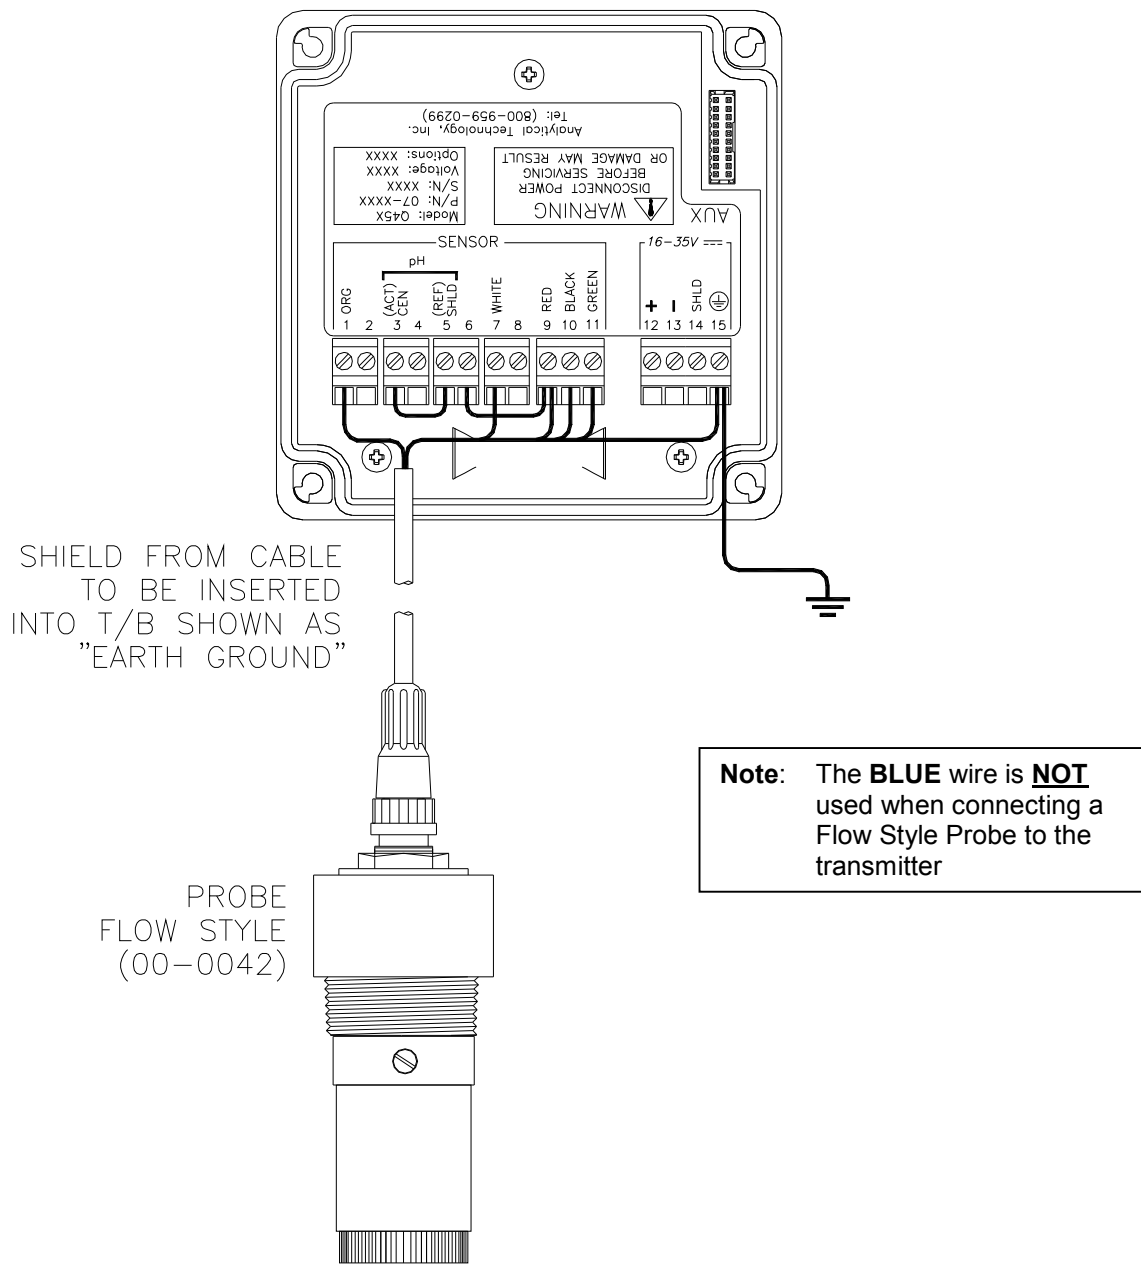
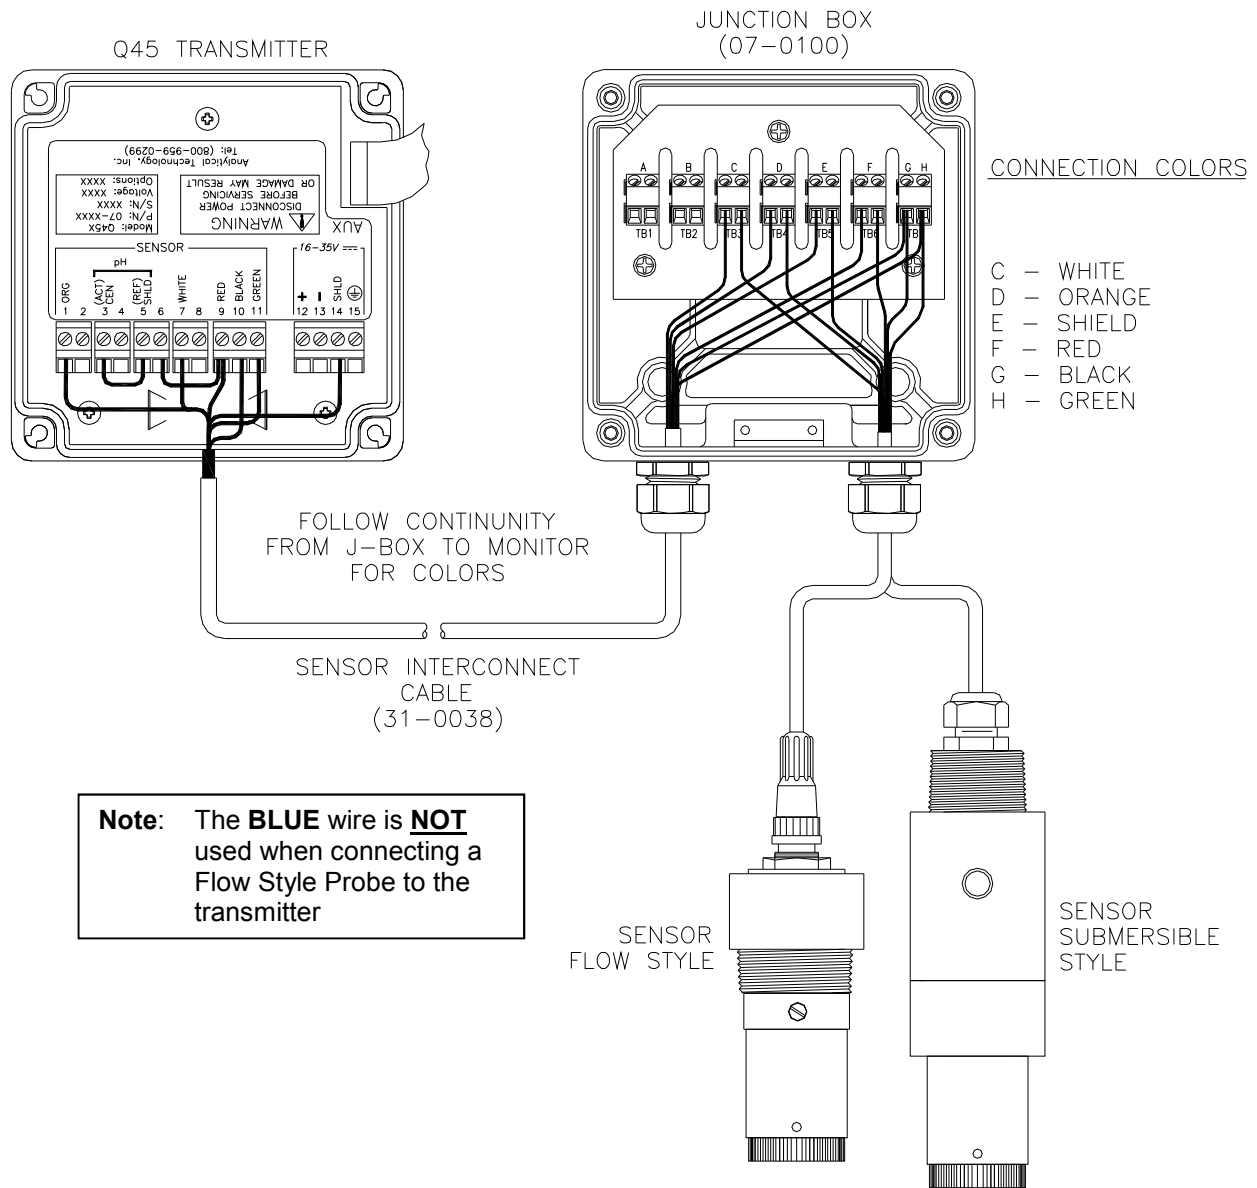

Figure 12 - Sensor Connection
Figure 15 - Junction Box Interconnect Wiring
1. Use wiring practices that conform to all national, state and local electrical codes. For proper safety as well as stable measuring performance, it is important that the earth ground connection be made to a solid ground point from terminal 15 (Figure 12.)
Q45H units ordered with the external connection option are designed for applications where power is to be supplied from an external source, and the two voltage outputs are to be wired to an external device. Figure 12 identifies the terminal connections for external powers.
Sensor connections are made in accordance with Figure 12 or Figure 15. The sensor cable can be routed into the enclosure through one of cord-grips supplied with the unit. Routing sensor wiring through conduit is only recommended if a junction box is to be used. Some loose cable is needed near the installation point so that the sensor can be inserted and removed easily from the flowcell.
For installations where the sensor is to be located more than 25 feet from the monitor (max. 100 feet), a junction box must be used. The junction box is shown in Figure 15, and is supplied with a ½" conduit hub on one end and a sensor cable gland on the other end.